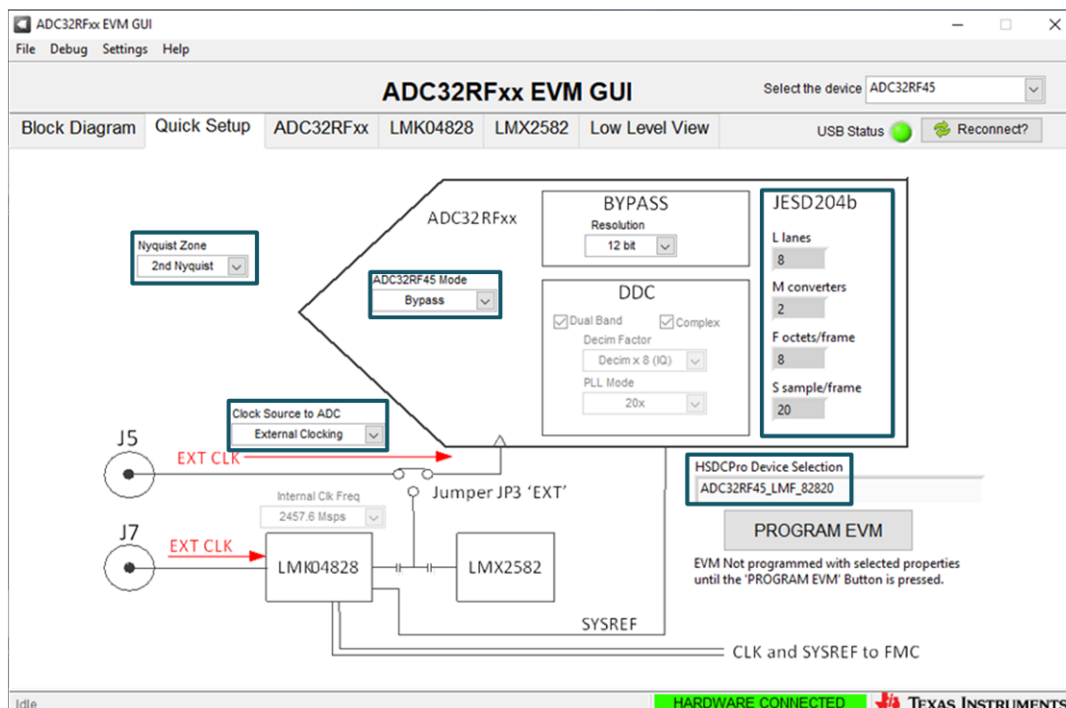
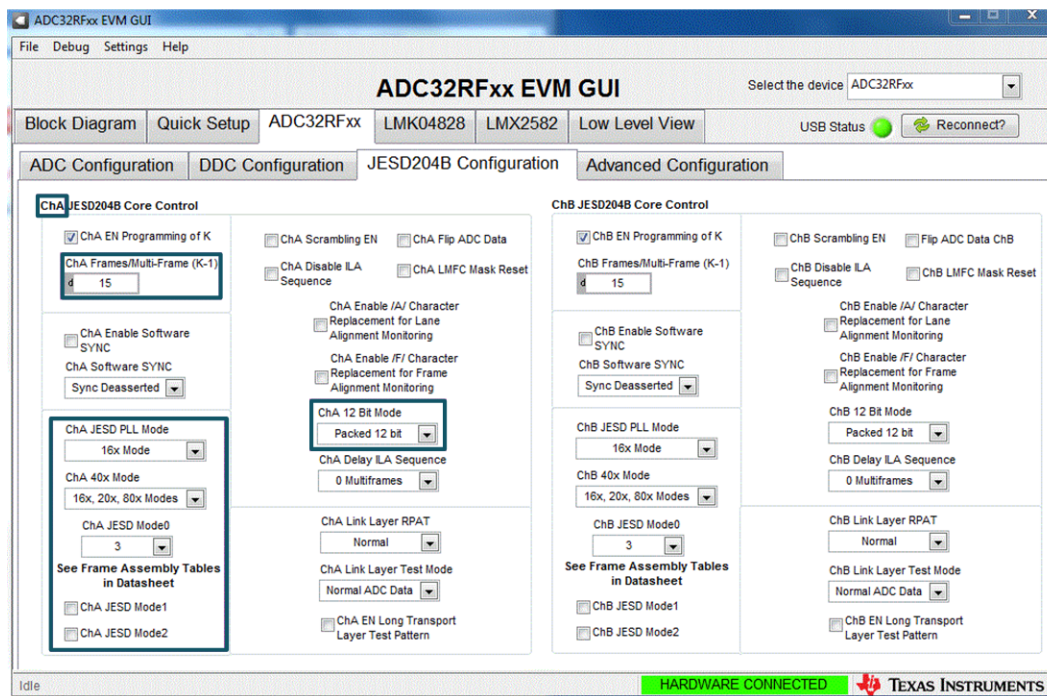

Figure 4. ADC32RFxx-EVM Quick Setup View Bypass Mode
Figure 5. ADC32RFxx-EVM GUI JESD204B Tab Bypass Mode
11. After pressing the **PROGRAM EVM** button, the device is configured as shown in Figure 4 and Figure 5 indicating the 12 bit packed 5 sample mode for LMFS82820.